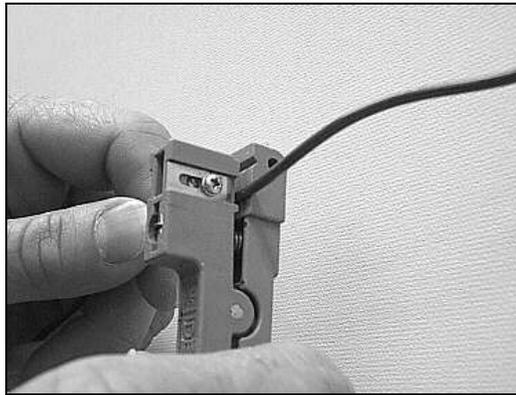

Figure 29 – Ring cut the buffer tube.
6.22 Consult the closure instructions for the required fiber and tube lengths. Use a buffer tube removal tool to ring cut and remove the desired length of buffer tube (Figure 29). If a long length of tube must be removed, it is recommended to remove the tube in 14- to 18-inch sections.